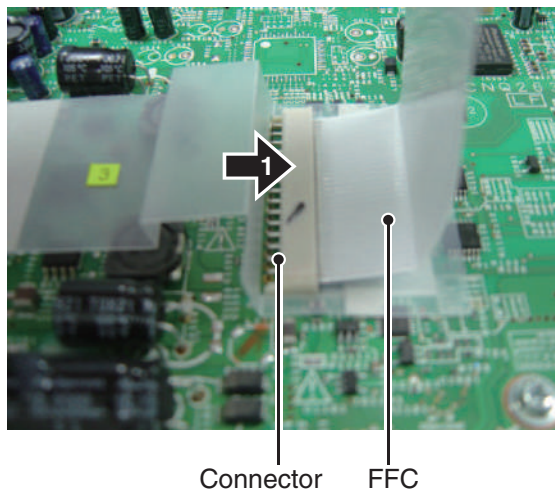

Fig.3
● Removing the Sheet (Fig.3, 4)
➔ 1 Disconnect the FFC from the Connector. (Fig.3)
3. Temporarily attach the pick up FPC to the pick up rack. (Fig. 3)
3. As in Fig. 3, shift the back end of the feed screw to the side and then to above and remove it from the outside holder.